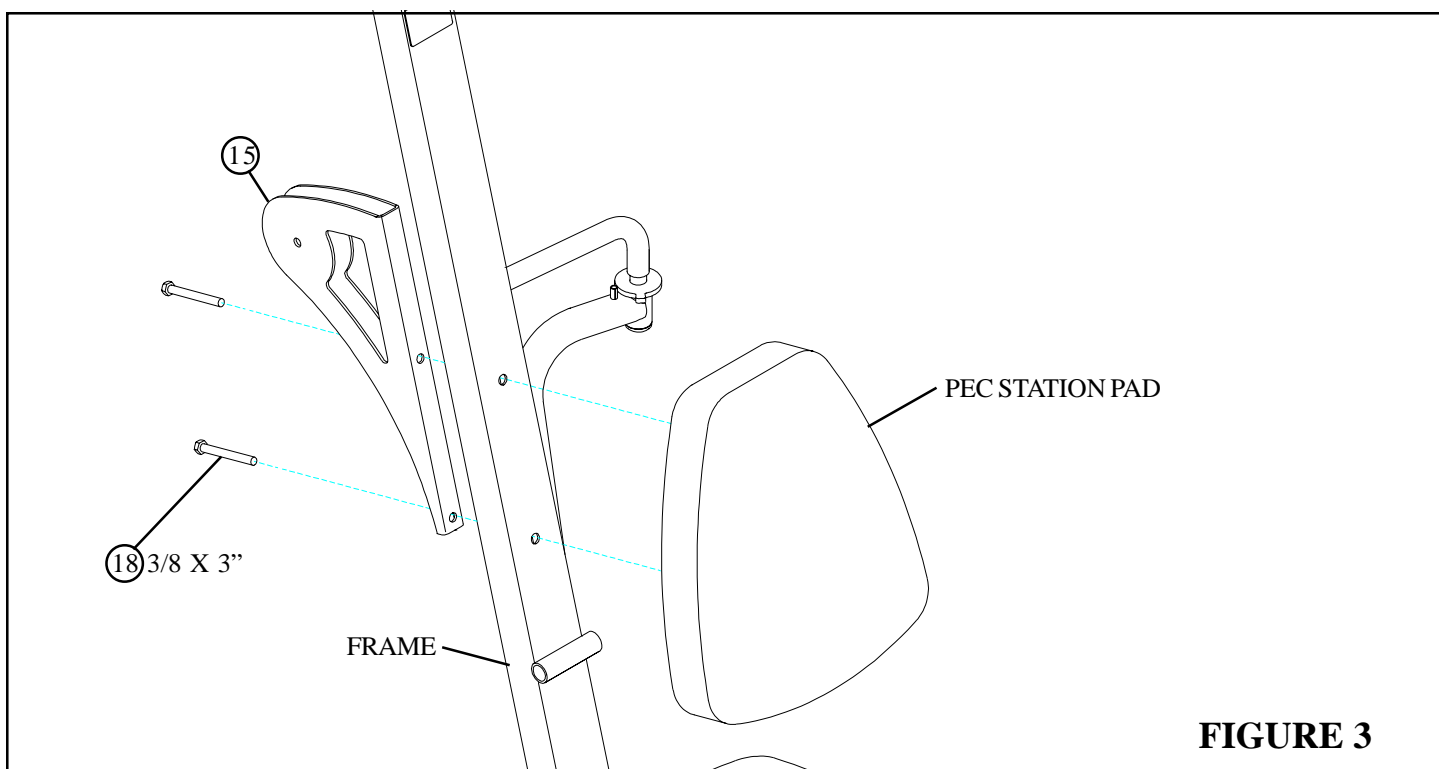

**FIGURE 2**
- Remove the PEC STATION PAD from the FRAME, then discard the two  $3/8 \times 2\text{-}3/4$  inch BOLTS. See FIGURE 2.
- Assemble the LONG LEG PRESS CABLE (3) to the PEDESTAL and route the LONG LEG PRESS CABLE (3) thru the BASE FRAME as shown in FIGURE 2. (**NOTE: Remove pulleys for ease of installation.**)
- Route the LONG LEG PRESS CABLE (3) around the 3-1/2" PULLEY on the PULLEY PLATES using one existing 3/8 X 1-3/4" BOLT and one existing 3/8" LOCK NUT. See FIGURE 2.
- Route the LONG LEG PRESS CABLE (3) around 3-1/2" PULLEY (4) and assemble to the bracket on the STACK BASE using one existing 3/8 X 1-3/4" BOLT and one existing 3/8" LOCK NUT. See FIGURE 2.